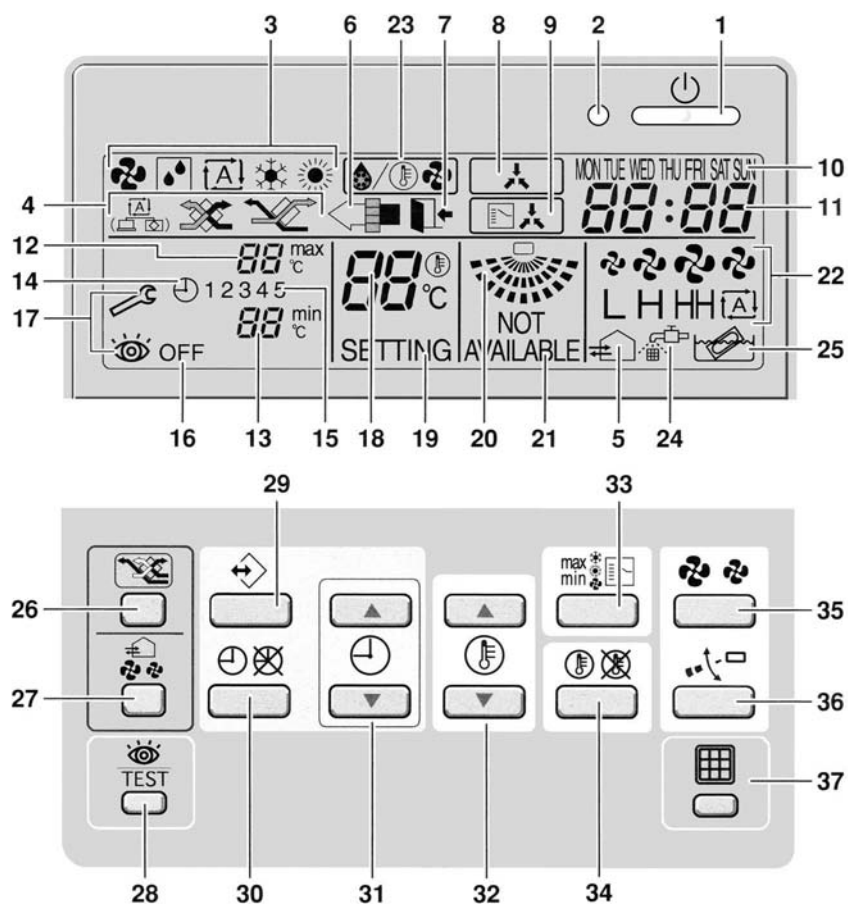

Figure 1
- Fig. 1**
- Ground the shield part of shielded wire or earth wire (only KJB311A(A)) as shown in the Fig. 1.
#### 4.8.4 Name and Function of Switches and Icons (Refer to figure 1)
### 1. Remove the upper part of remote controller (Refer to figure 1)